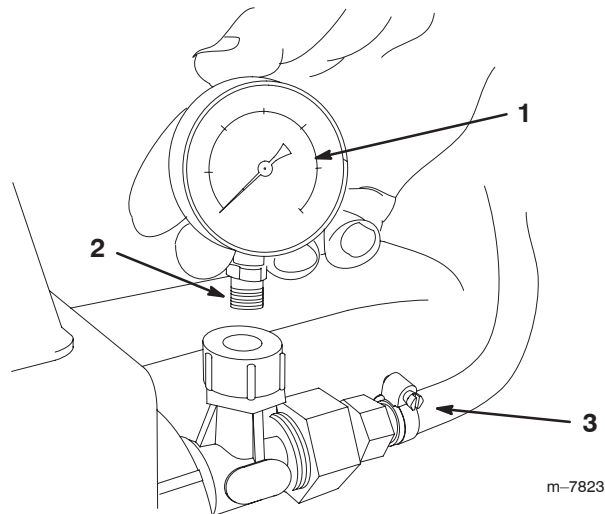

Figure 10
18. Wrap Teflon tape counterclockwise around the threads of the gauge (Fig. 10).
19. Install the pressure gauge into the open port to the right of the control valve (Fig. 10).
20. Connect the threaded fitting on the end of the long hose to the control valve assembly (Fig. 10).